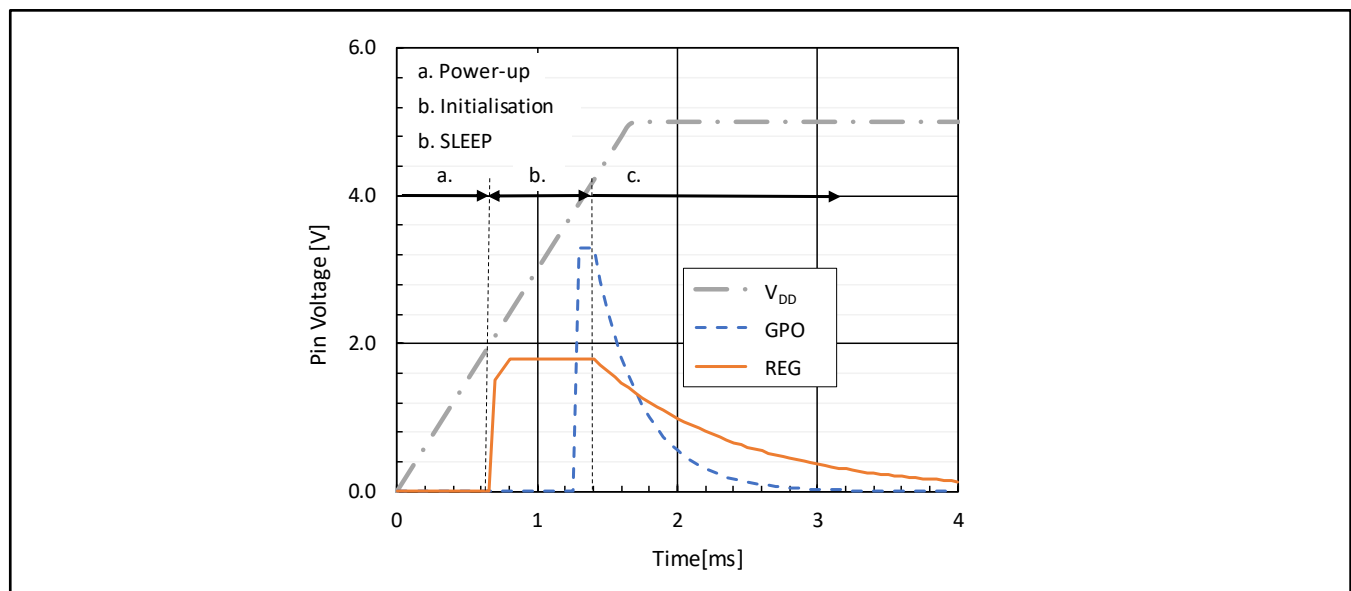

Figure 23: Typical  $V_{DD}$ , GPO & REG pin voltage during device initialization
2. Wait 3 ms for the BOS1211 to start-up with the sequence presented in Figure 23, with the following steps: